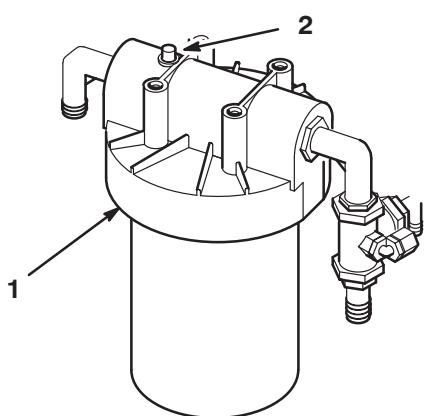

Figure 10
5. Reach under the fuel tank and press the bleed button on top of the water filter head (Fig. 10). Hold the bleed button down until all air is purged from the filter and water comes out of the opening.